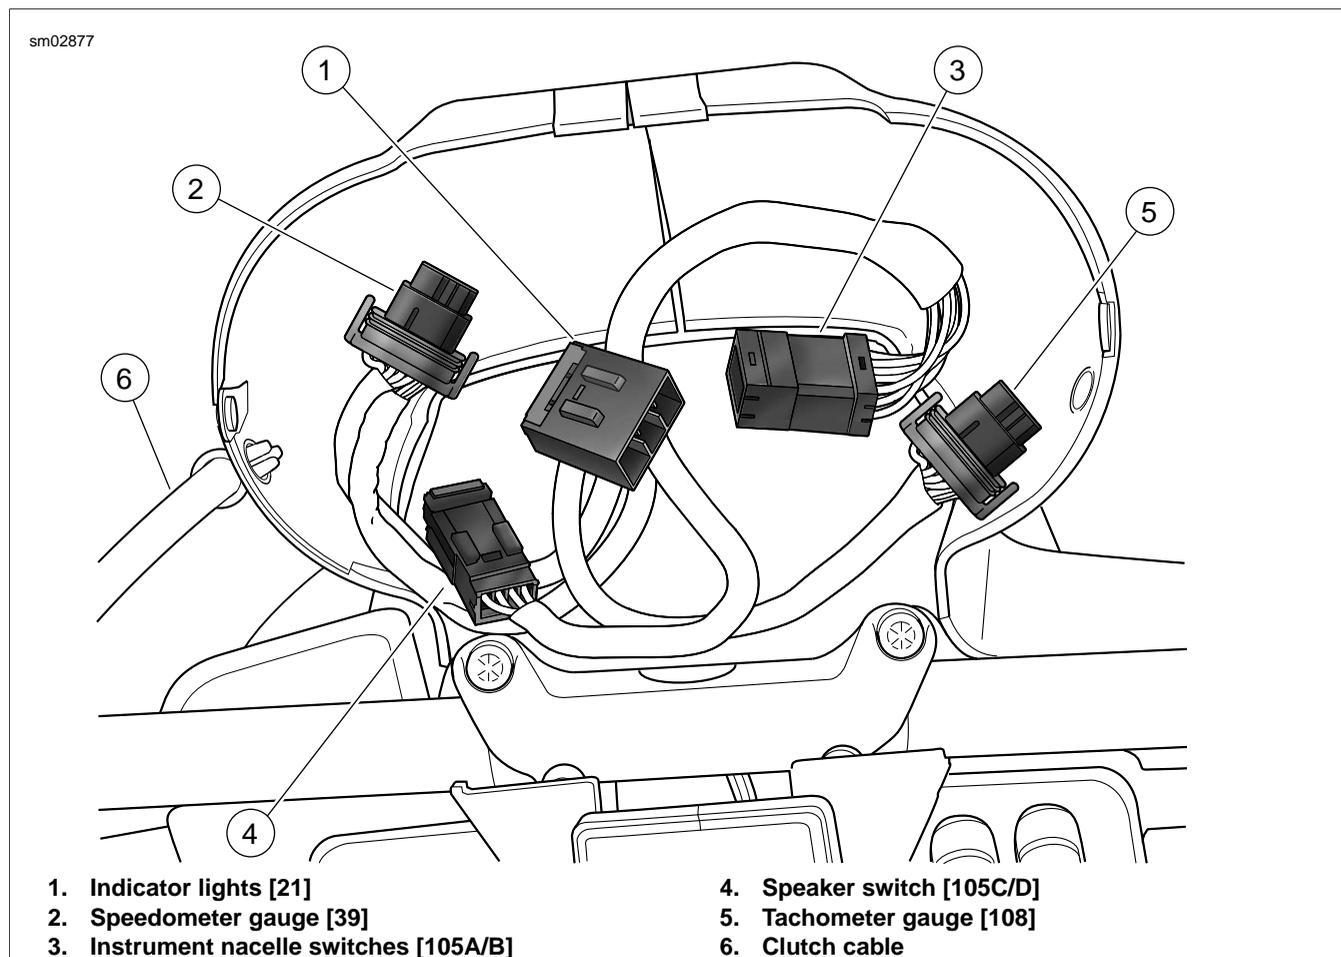

Figure 8-72. Instrument Nacelle (Bezel Removed)
4. See Figure 8-72. Raising bezel slightly, disconnect instruments and indicator lights from interconnect harness as follows:
1. See Figure 8-72. Disconnect speaker switch connector [105], 4-place Multilock.
4. Unthread rubber boot from odometer reset switch, and while carefully removing left side instrument nacelle from motorcycle, pull odometer reset switch from hole. Move left side of nacelle to bench area leaving right side on motorcycle. See Figure 8-72.
2. See Figure 8-72. Disconnect instrument nacelle switch connector [105], 12-place Multilock.
3. Remove two screws (with flat washers) to release right side of instrument nacelle from upper and lower fork brackets. Move right side of nacelle to bench area leaving left side on motorcycle. See Figure 8-72.
4. See Figure 8-72. Connect speaker switch connector [105], 4-place Multilock.
6. See Figure 8-72. Connect speaker switch connector [105], 4-place Multilock.